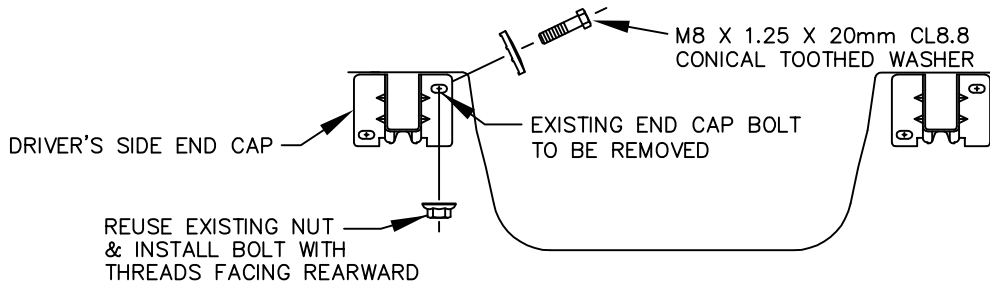

FIGURE 5.
1. REMOVE THE TWO (2) FASTENERS THAT ATTACH THE PASSENGER'S SIDE BUMPER BRACKET TO THE FRAME RAIL END CAP. RETURN FASTENERS TO VEHICLE OWNER.
2. REMOVE THE EXISTING DRIVER'S SIDE INBOARD FRAMERAIL END CAP BOLT AND REPLACE IT WITH FASTENERS AS SHOWN IN FIG 5 (TO PROVIDE ACCESS FOR CARRIAGE BOLTS INSTALLED IN STEP 12).